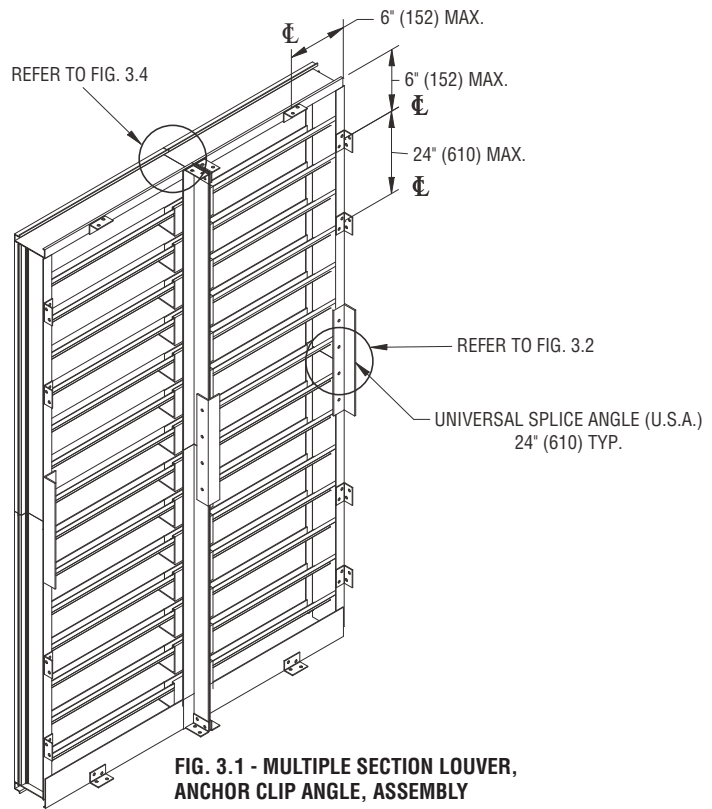

FIG. 3.1 - MULTIPLE SECTION LOUVER, ANCHOR CLIP ANGLE, ASSEMBLY
3. Locate anchor clip angles as required to establish proper louver depth and position. See Fig. 3.1 for required spacing for stationary non-drainable louvers. (Clip angles are by others or optional by Nailor).